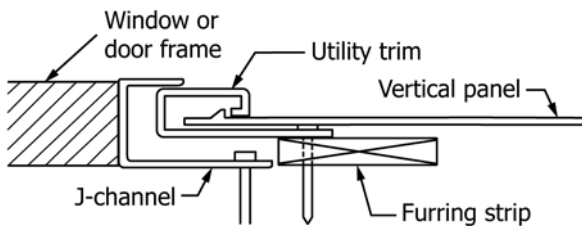

FIG. 27 Installation with Panel Cut on Flat Surface
10.12.2 If the panel is cut on the flat surface, install undersill trim, backed by a furring strip, into the J-channel using fasteners that do not penetrate the leg of the J-channel. Punch snap locks along the edge of the panel at 6-in. (152-mm) intervals; snap it into the space below the return of the J-channel, locking the other side into the last panel. (See Fig. 27.)